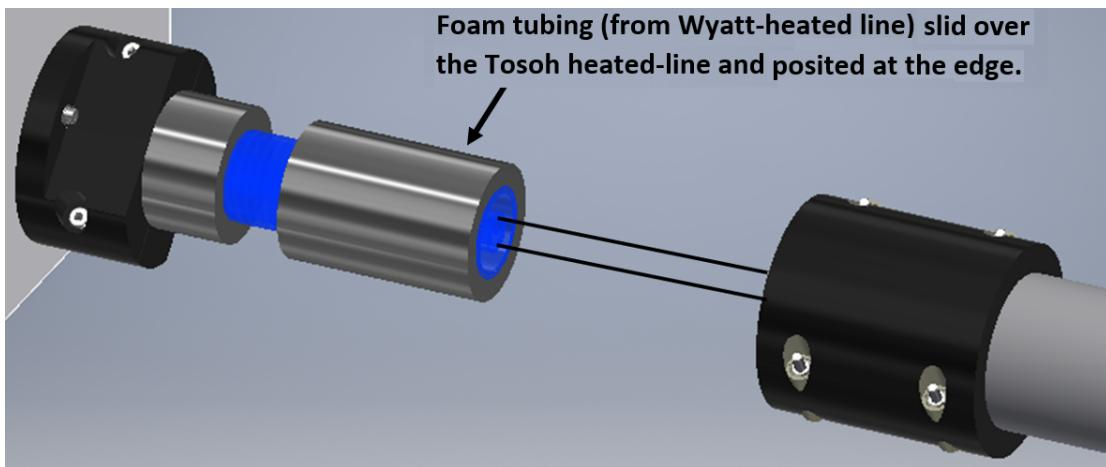

Figure D-20: Foam tube from the Wyatt heated-line assembly slid over the Tosoh heated-line assembly
8. Slide the foam over the chromatography tubing and on to the Tosoh heated-line. Make it flush with the heated-line as shown in Figure D-20.